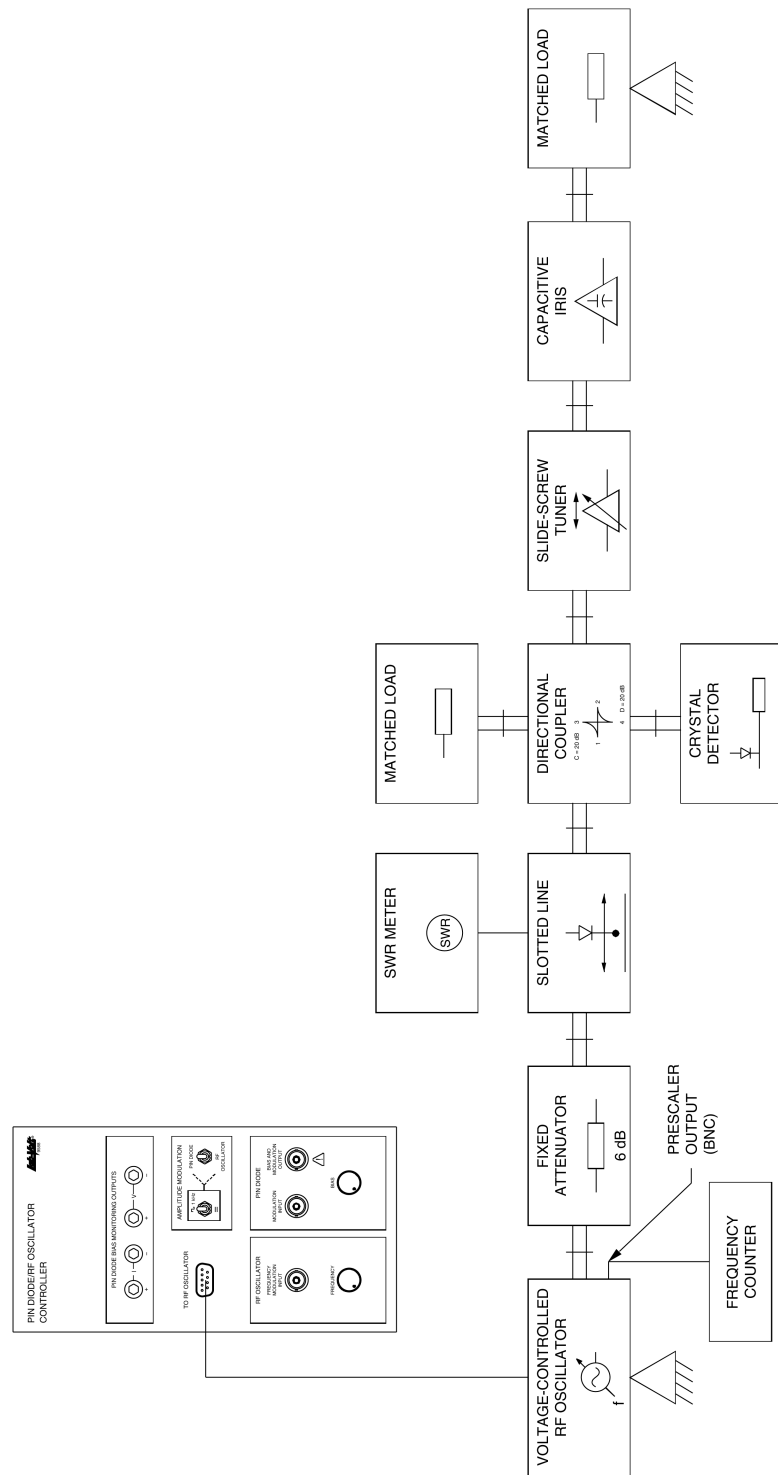

Figure 2-11. Measuring the SWR after load matching at 10.1 GHz.
- 21. Keep the setup as it is. Referring to Figure 2-11, disconnect the SWR Meter from the Crystal Detector and connect it to the Slotted Line.